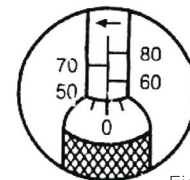

Fig 1
- Turn the handle until the zero graduation on the bevelled edge of the handle is aligned with the vertical mark on the handle and is equal to the 50Nm graduation (Fig.1).